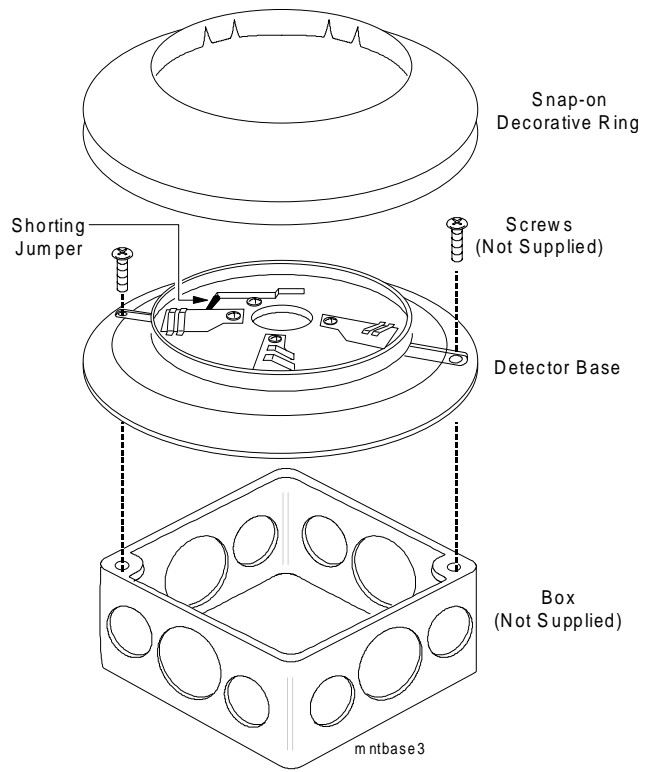

Figure 1: Mounting Detector to Box
2. Use the screws supplied with the junction box to attach the base to the box through the appropriate slots in the base (Figure 1).